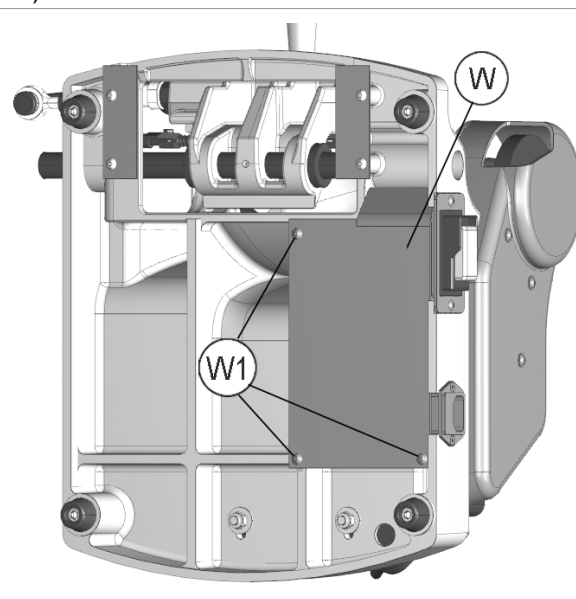

Fig.35
- 4) Loosen the 3 screws (W1) and remove the plate (W) (Fig.35).